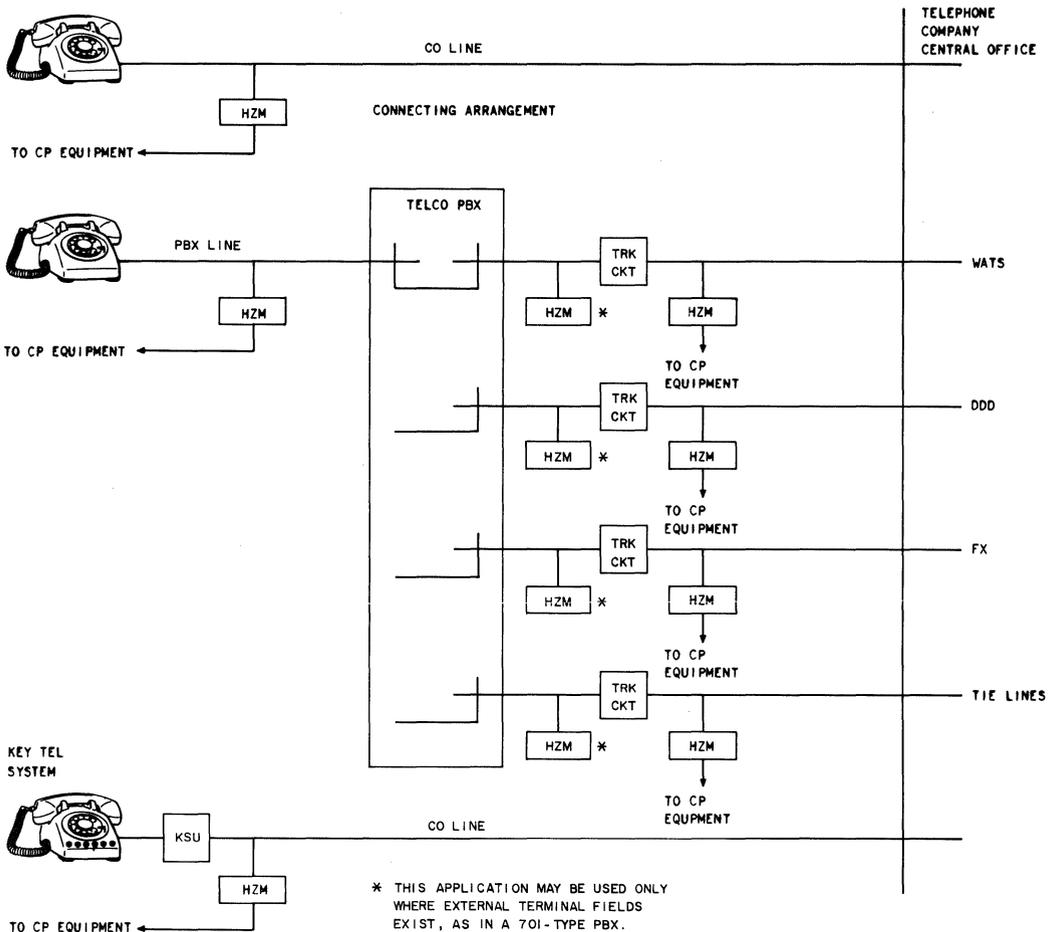

Fig. 1—Typical Applications of PCA HZM
1.01 This section provides identification, installation, operation, maintenance, and connecting information for Protective Connecting Arrangement (PCA) HZM. PCA HZM provides a connection between customer-provided (CP) traffic measuring equipment and Bell System station lines, PBX central office (CO) trunks, and tie lines. Typical applications are shown in Fig. 1. This arrangement permits the CP equipment to detect on-hook, off-hook, dial pulse, TOUCH-TONE® signals, call progress tones, and ringing signals on the Bell System lines.